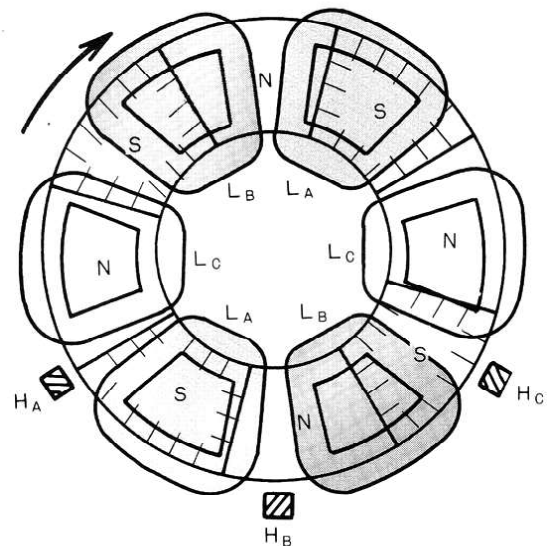

Fig. 7-2
1. Assume that the rotor has stopped at the position as shown in Fig. 7-2.